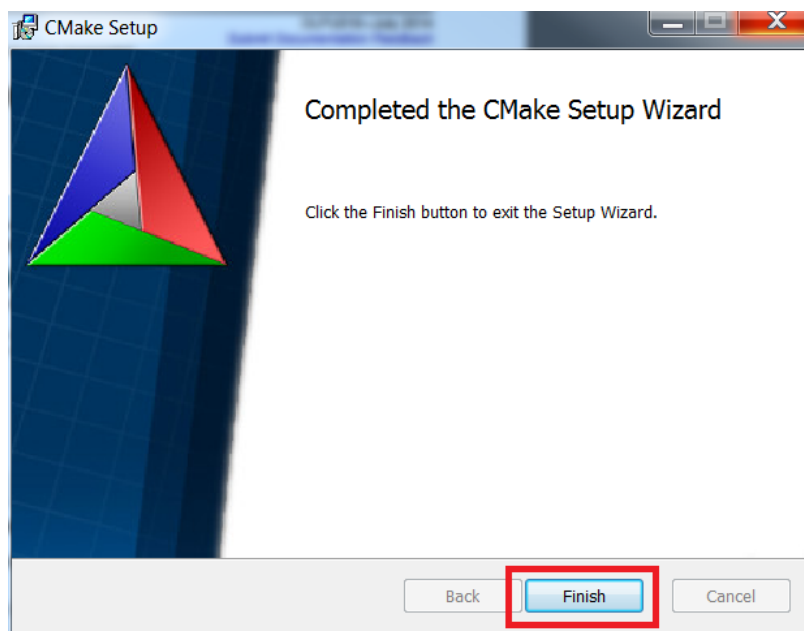

Figure 20. CMake Finished
6. Click “Finish” as shown in Figure 20 and CMake is now installed.